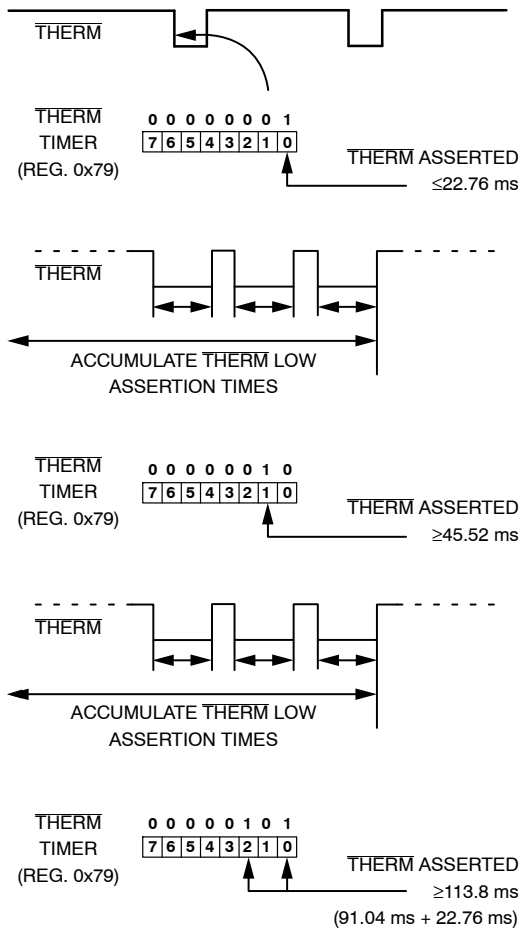

Figure 32. Understanding the $\overline{\text{THERM}}$ Timer
45.52 ms, Bit 1 of the $\overline{\text{THERM}}$ timer is set and Bit 0 becomes the LSB of the timer with a resolution of 22.76 ms (see Figure 32).